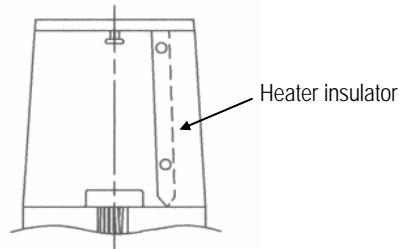

Figure 5
- (4) Insert the red, black(110V) / blue(220V), yellow, orange, Violet (110V) /brown (220V) between the guide post of air flow assembly and align heater insulator slot at lead wire position as shown in figure 5.